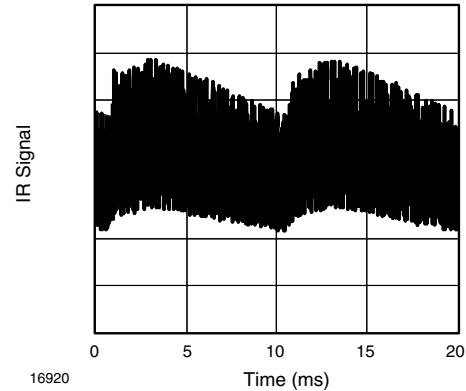
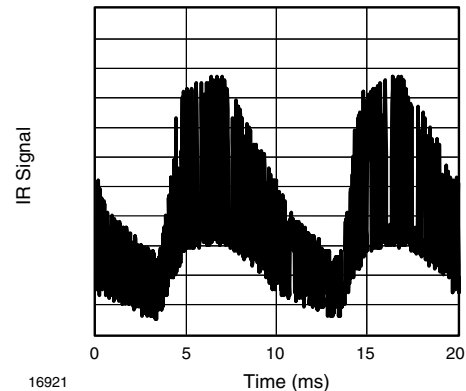

Fig. 13 - IR Disturbance from Fluorescent Lamp with Low Modulation
Fig. 14 - IR Disturbance from Fluorescent Lamp with High Modulation
- Strongly or weakly modulated patterns from fluorescent lamps with electronic ballasts (see figure 13 or figure 14)